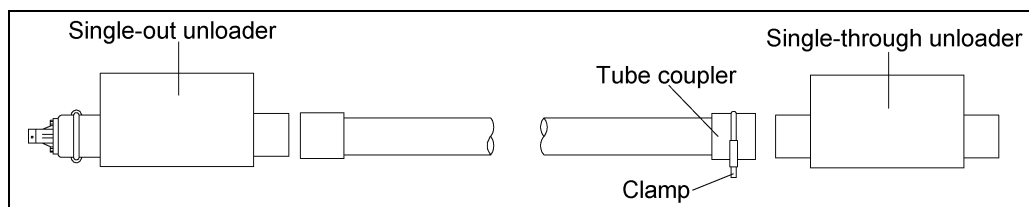

Figure 5I Tandem System Installation
4. Slip the appropriate tube coupler over the cut end of the straight tube. Position the straight tube in its operating location. Slide and clamp the tube coupler over the straight-through unloader inlet. (See *Figure 5I*.)